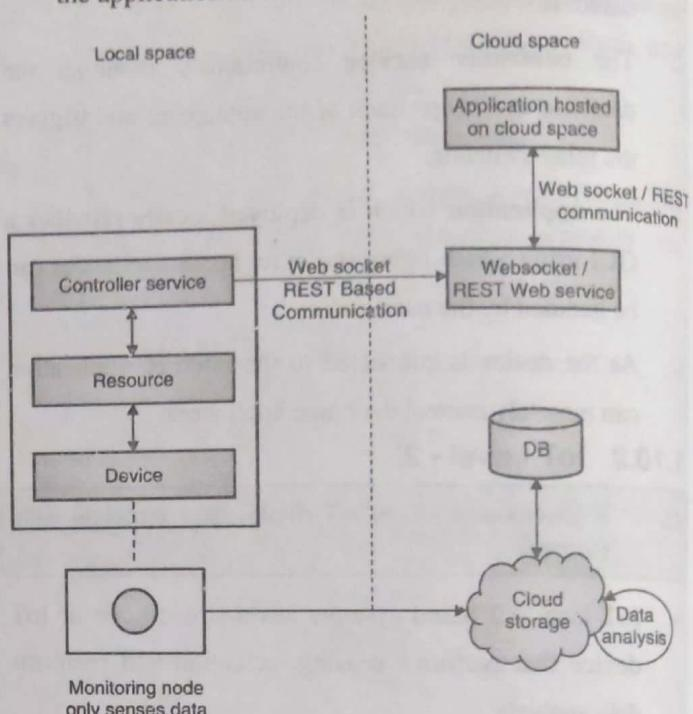

Fig. 1.10.3 : IoT Level - 3 System
- As shown in Fig. 1.10.3 a single node is responsible for sensing data while data storage, data analysis and application hosting is done in the cloud environment. IoT level - 3 based systems can handle big data, extensive data analysis and higher computational complexity due to cloud support.